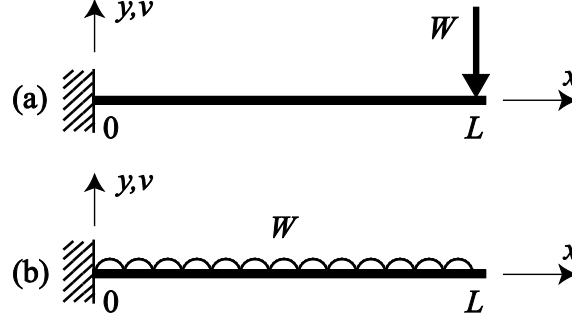

Figure 11
- † 12. (a) The elastic cantilever beam shown in Figure 11(a) has uniform bending stiffness $B \text{ [Nm}^2\text{]}$ and is straight when unloaded. It carries a concentrated transverse load $W \text{ [N]}$ at its tip, as shown.
(b) Repeat the calculation for the situation shown in Figure 11(b), where now the (total) load W is distributed uniformly along the beam.